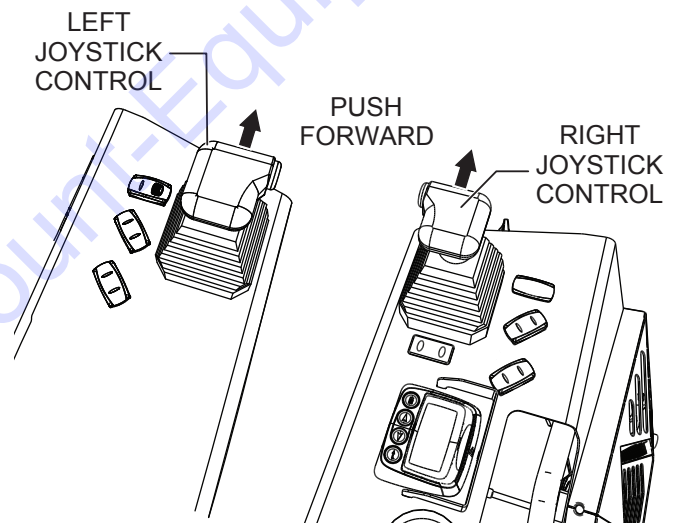

Figure 25. Joystick Control Forward Direction
2. Push both the left and right joysticks forward (Figure 25).